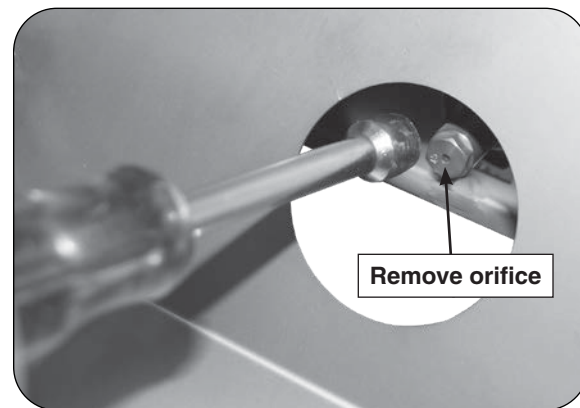

Fig. 35-2 Remove orifice to convert/check
4. Using a $\frac{3}{8}$ " socket, remove the orifice from the orifice holder (see Fig. 35-2 and Fig. 35-3) and check the number stamped on the face.